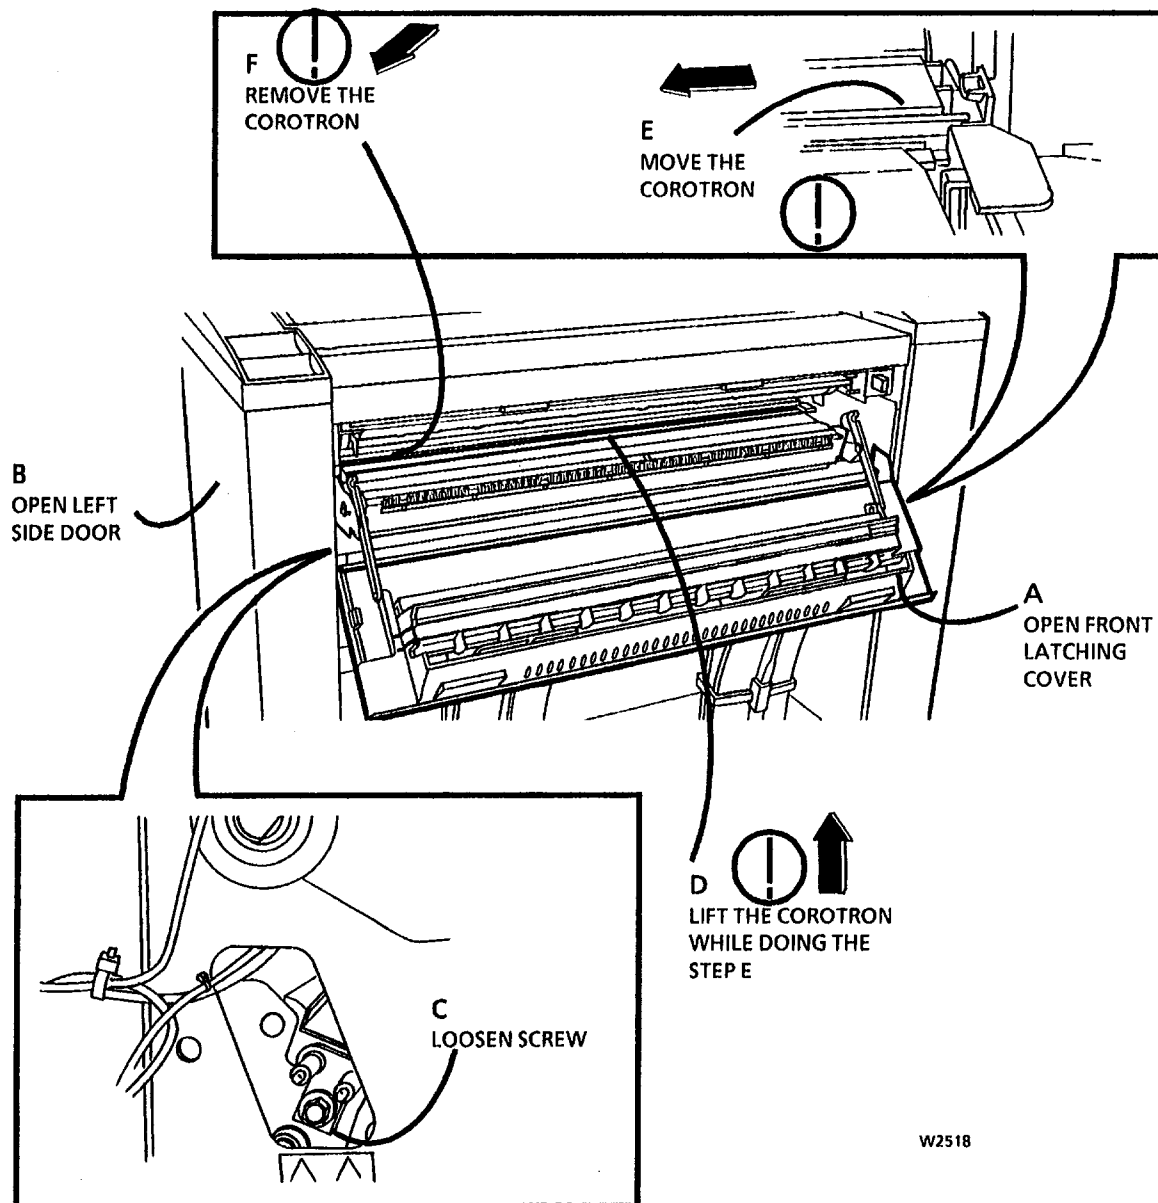

Figure 1. Remove the Transfer/ Detack Corotron
1. (Figure 1): Remove the Transfer/ Detack Corotron.